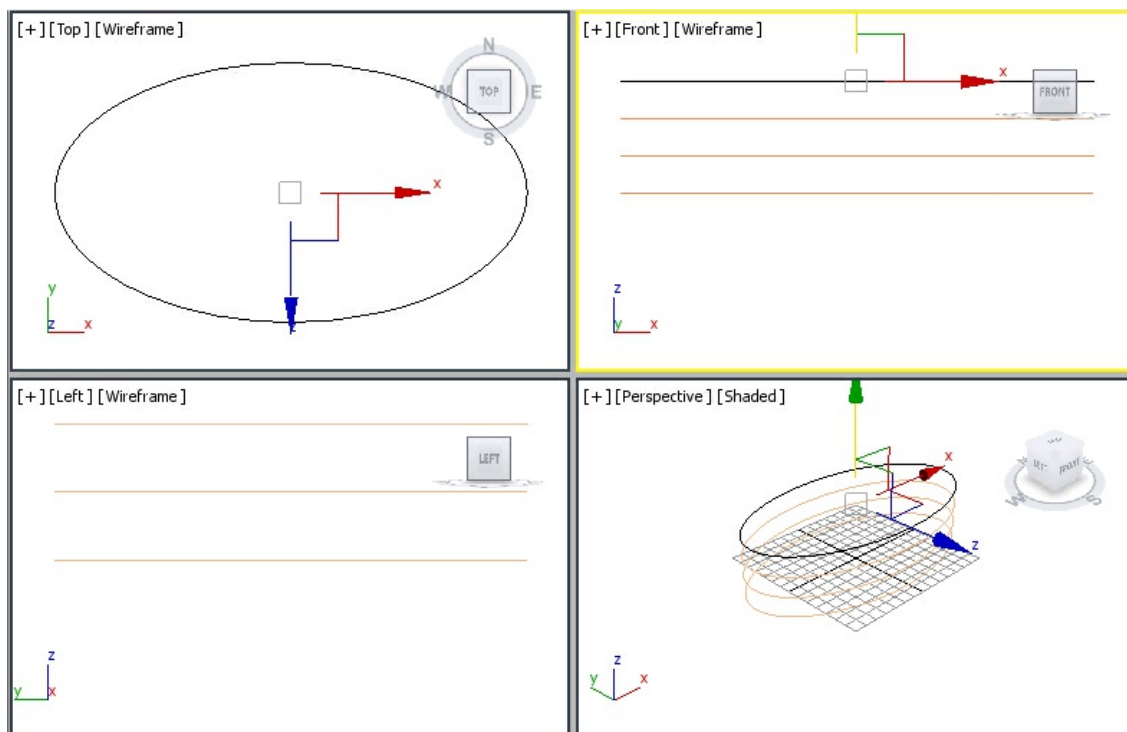

Figure 10-60 All ellipses displayed in viewports
5. Choose the **Select and Move** tool. Next, select *Ellipse001* in the Front viewport and move the cursor over its Y axis. Press and hold the SHIFT key and the left mouse button and then move *Ellipse001* to the upward direction until the value of the Y spinner in the coordinates display becomes about 16. Now, release the left mouse button and the SHIFT key; the **Clone Options** dialog box is displayed. Set the value **3** in the **Number of Copies** spinner and choose the **OK** button; *Ellipse001*, *Ellipse002*, *Ellipse003*, and *Ellipse004* are displayed in viewports, as shown in Figure 10-60.